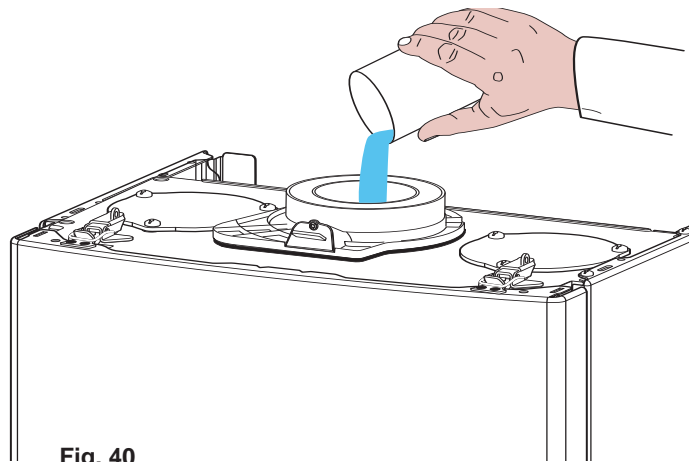

Fig. 40
2. **Fill the condensate trap with water, by pouring $\frac{1}{2}$ litre of water into the exhaust flue connector (see Fig. 40). N.B. In the event of a prolonged period of system shutdown, the condensate trap should be filled before any renewed use. A shortage of water in the trap could possibly lead to a temporary leakage of fumes into the air, until it refills itself;**